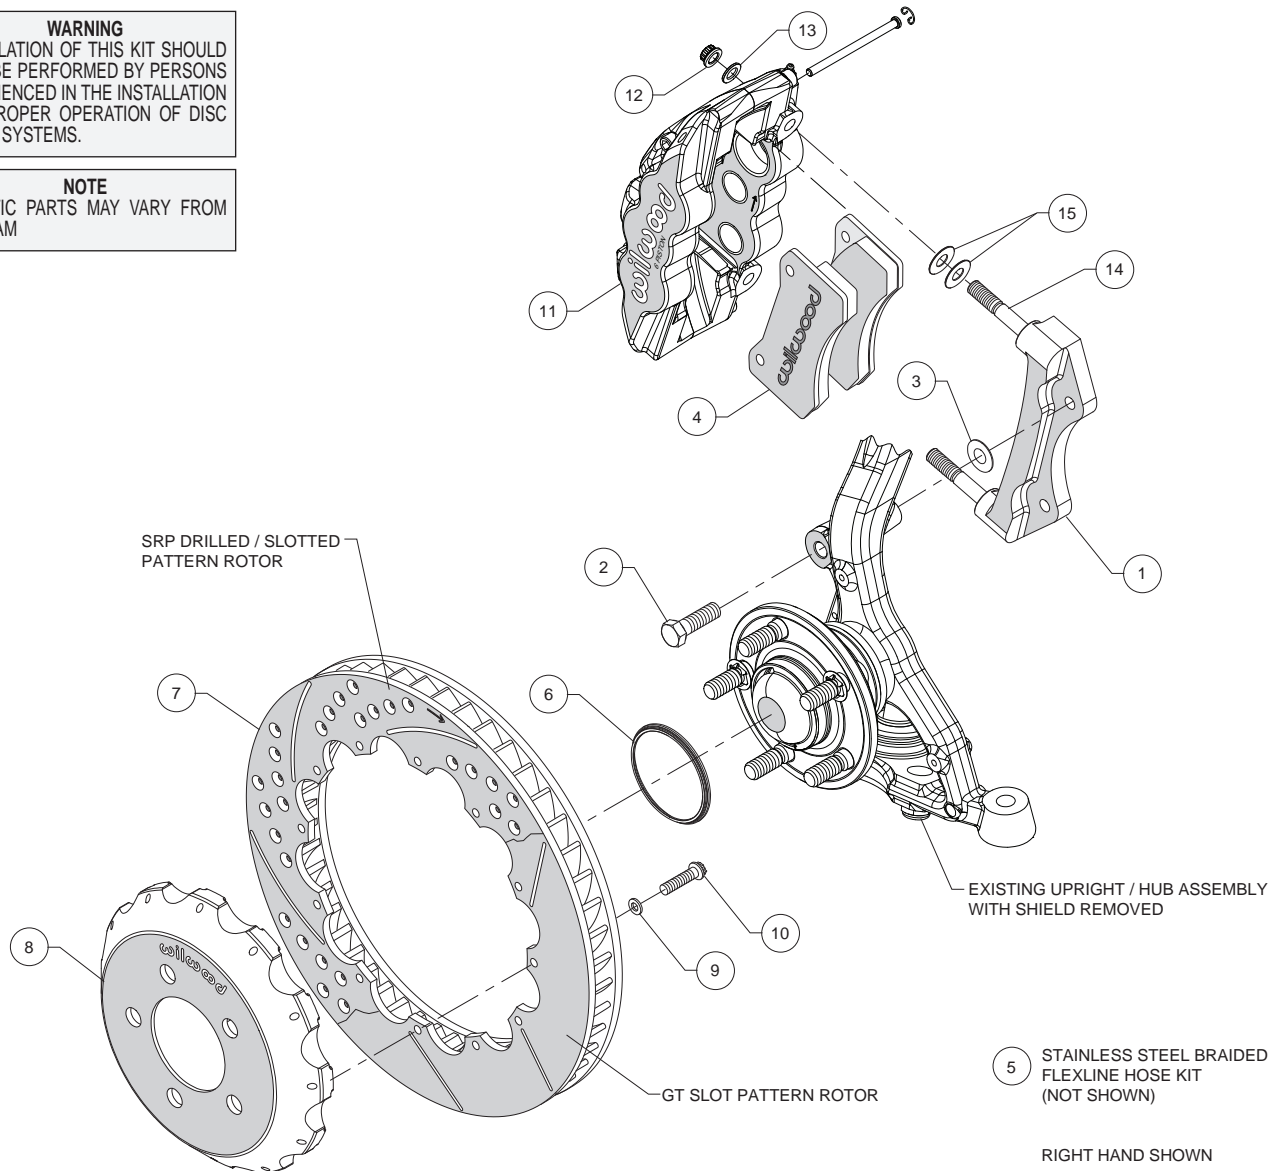
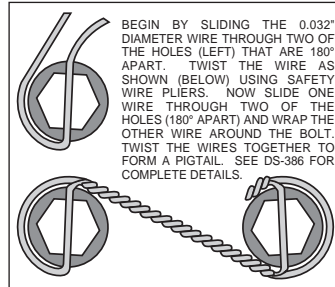

Figure 1. Typical Installation Configuration
Figure 3. Safety Wire Diagram
**Assembly Instructions** (numbers in parenthesis refer to the parts list and Figure 1 on the preceding pages):
- The caliper mount bracket (1) should initially be installed with clean, dry threads on the mounting bolts. Orient the bracket as shown in Figure 1 and Photo 1 and install using mount bolts (2). Initially place one .029" thick shim (3) on each bolt between the bracket and upright, Figure 1. Temporarily tighten the mounting bolts. **NOTE:** *The bracket must fit squarely against the mount bosses on the upright.* Inspect for interference from casting irregularities, machining ridges, burrs, etc. Later, after the caliper alignment has been checked, the mount bolts will be secured using red *Loctite*® 271.
- Orient the rotor (7) and the hat (8) as shown in Figure 1 and Photo 2. Attach rotor to hat using bolts (10) and washers (9). Using an alternating sequence, apply red *Loctite*® 271 to the threads and torque bolts to 155 in-lb. For an added measure of security, the bolts may be safety wired using standard 0.032 inch diameter stainless steel safety wire as shown in Figure 3. Please refer to Wilwood's data sheet DS-386 (available at [www.wilwood.com/Pdf/DataSheets/ds386.pdf](http://www.wilwood.com/Pdf/DataSheets/ds386.pdf)) for complete safety wire installation instructions.
- NOTE:** *This kit contains distinct right and left hand calipers that must be mounted in a specific direction, as described below.* Lubricate the caliper mounting studs (14) with lightweight oil. Initially place two .030" thick shims (15) on each stud between the caliper and the bracket, as shown in Figure 1 and Photo 4. Mount the caliper (11) onto the bracket (1) using lock nuts (12) and washers (13), Figure 1. Temporarily tighten the lock nuts. Ensure that the caliper is mounted so the largest pistons are at the rotor exit end of the caliper, in relation to the direction of the rotor. View the rotor (7) through the top opening of the caliper. The rotor should be centered in the caliper, Photo 5. If not, adjust by adding or subtracting shims (3) between the bracket and the upright. Always use the same amount of shims on each of the two mounting bolts. Once the caliper alignment is correct, remove the bracket mounting bolts one at a time, apply red *Loctite*® 271 to the threads, and torque to 77 ft-lb.
- Remove the two pad retaining pins from the caliper (11) by carefully popping out the pin retaining clips and sliding out the pins. Insert the brake pads (4) into the caliper from the bottom, Figure 1 and Photo 6. With the friction material facing the rotor,